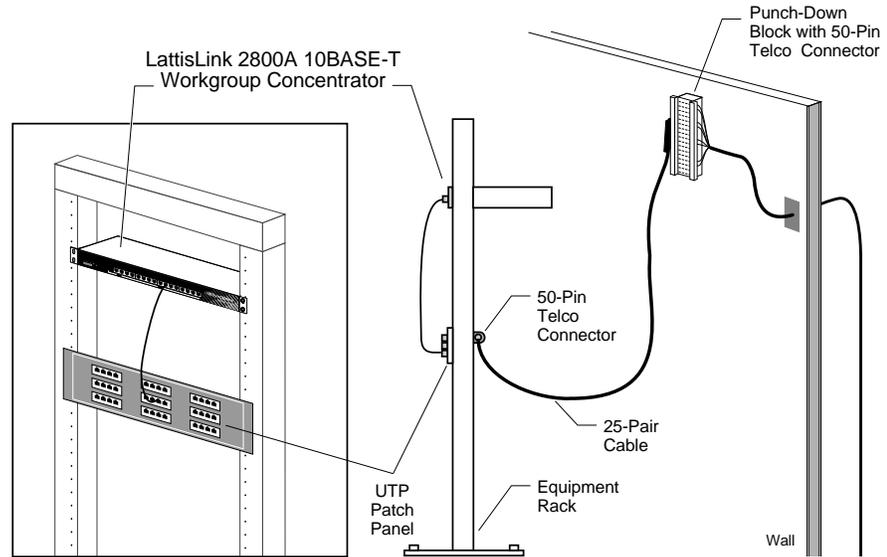
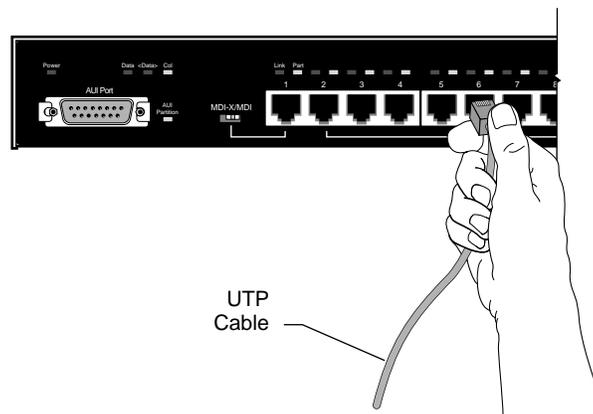

Figure 3-6. Connecting 25-Pair Cable
Figure 3-7. Model 2800A 10BASE-T Port Connection
- 3. Connect a 25-pair UTP cable from the punch-down block to a UTP patch panel (see Figure 3-6).**
4. Connect one end of a UTP patch cable (e.g. Model 910) to the UTP patch panel (see Figure 3-6). Connect the other end to a 10BASE-T port on the Model 2800A (see Figure 3-7).